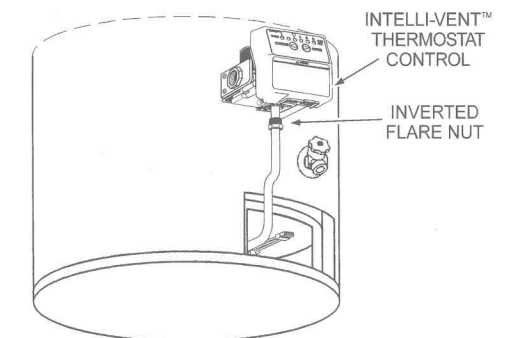

FIGURE 11.
15. Install the burner assembly into the water heater. Make certain that the flat end of the burner supply tubes goes into the slotted opening of the radiation shield and the flared end into the inverted flare opening of the Intelli-vent™ Thermostat Control, (184960 Series), see Figure 11.
16. Hand start threading the burner tube's inverted flare nut into the Intelli-vent™ Thermostat Control, (184960 Series). Use a 3/4 inch open-end wrench to tighten the nut. DO NOT over tighten. DO NOT use joint compound or tape on the union connection, see Figure 11.